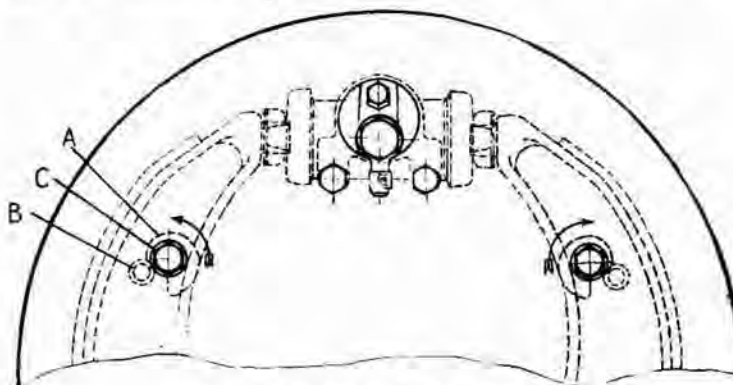

Fig. 6. Details of the brake-shoe adjustment.
When lining wear has reached a point where the foot pedal goes almost to the floorboard, it becomes necessary to adjust the brake-shoes into closer relation to the drums. Raise car on jack until wheel is free. Adjustment is made by rotating the adjustment cam (A) (Fig. 6) against stop pin (B) on shoe. Rotate adjustment nut (C) with wrench until brake-shoe comes in contact with drum, then back off adjustment slightly until wheel rotates freely without any appreciable drag.